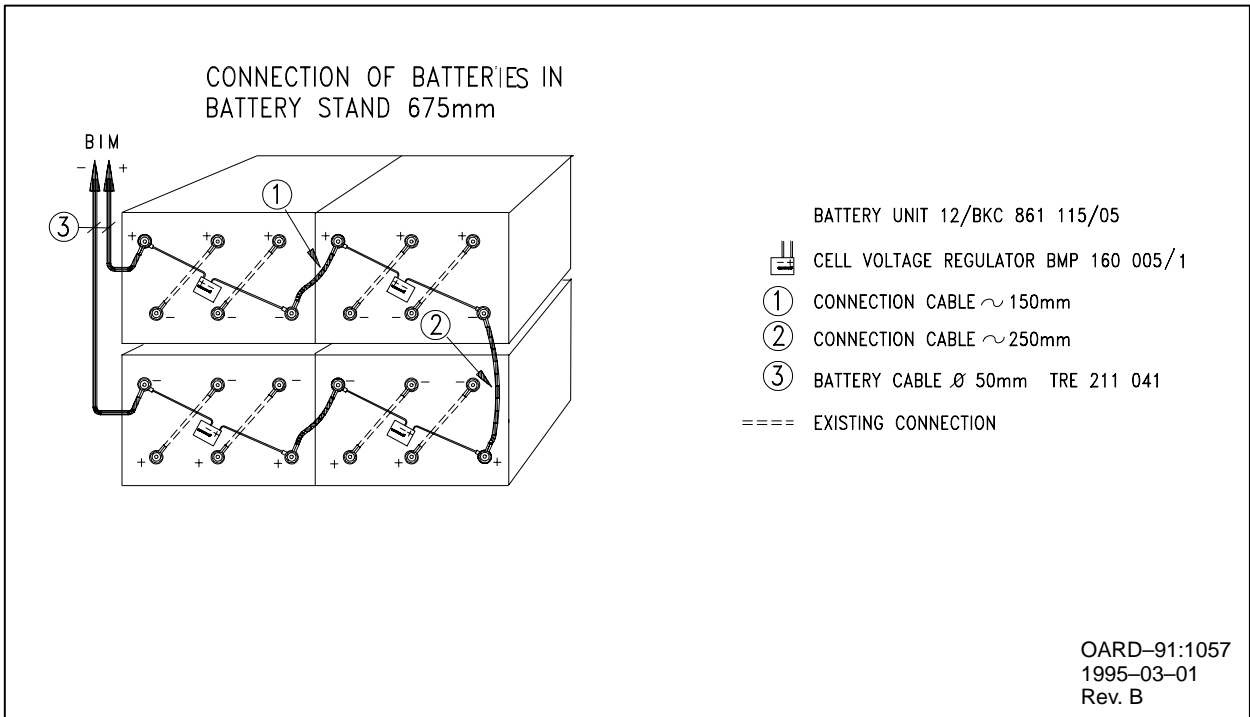

Figure 3 134 Ah Battery Back-up: Connection of Batteries and 6.75V/cell Block Voltage Regulators
- 29 Ah back-up, see figure 3.
- 134 Ah back-up, 6.75V/cell block, see figure 3.